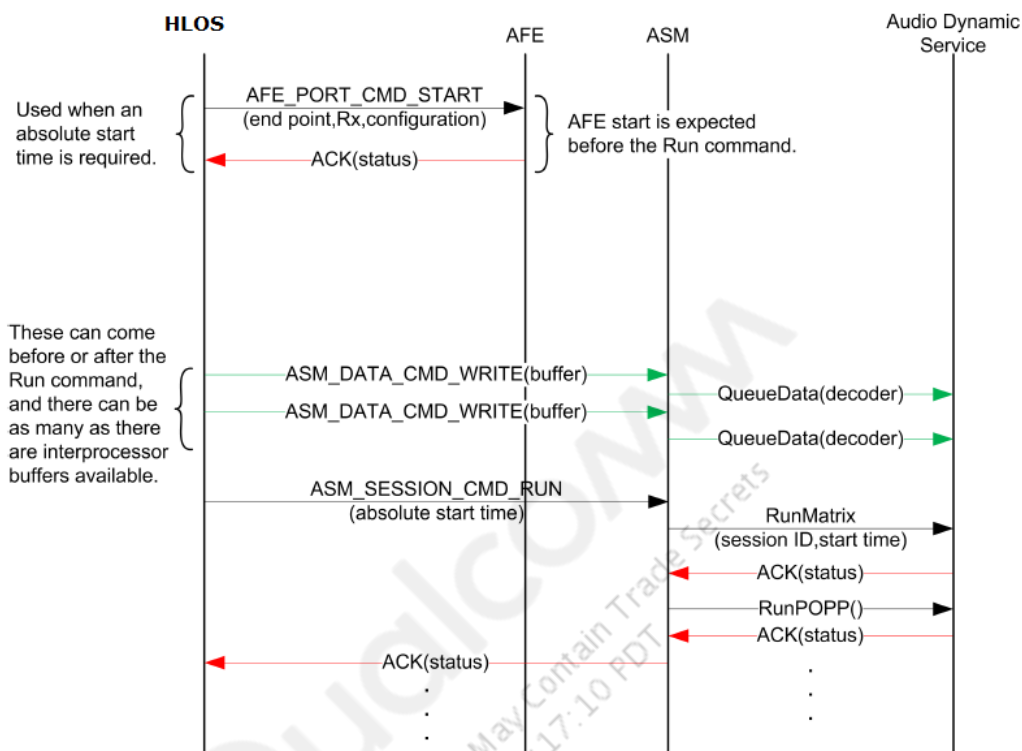

Figure 2-10 Call flow: Start sequence for audio/video synchronization
Figure 2-10 illustrates the start sequence for audio/video synchronization.
- The HLOS sends an EOS command when the ASM/ADM/AFE are still in the correct state, because the EOS command is propagated to the ADM/AFE, as described in Figure 2-10.